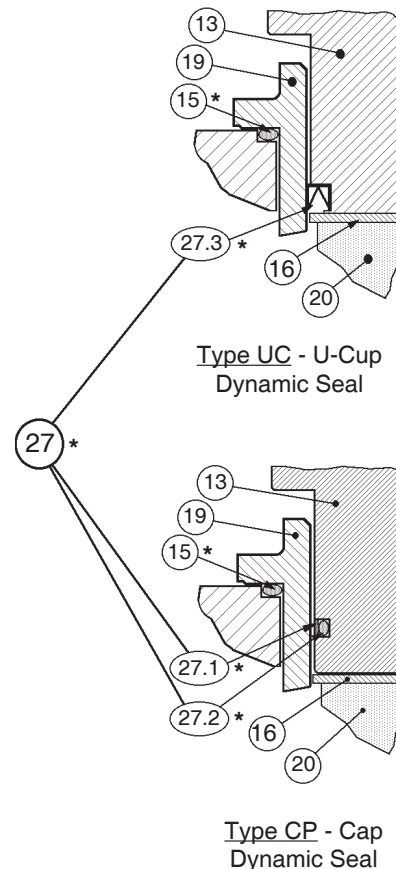
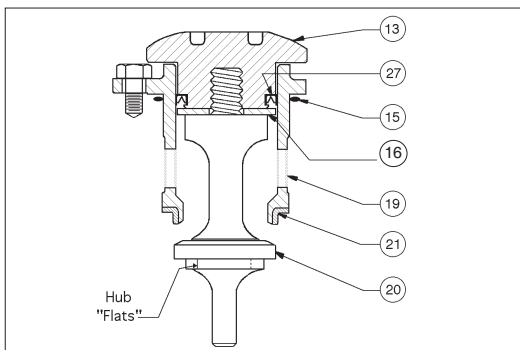

Figure 1: Dynamic Side Seals
Figure 2: Assembled ITA, with "UC" Dynamic Side Seal
6. A detailed view of the dynamic side seal parts is shown in Figure 1; an assembled ITA in Figure 2; and a cross-sectional drawing of the entire regulator is shown in Figure 3.
1. To Disassemble the ITA (See Figure 2):
- a. Hold the lower part of the valve plug (20) in a bench vise; grasp in "smooth jaws" directly under plug's (20) seating disc portion on hub "flats" provided. Do not hold on the machined surface in the plug's (20) spindle area.
1. Installation of dynamic side seal (27) (See Figure 1):
1. Position u-cup seal (27.3) over lower circumference of piston-guide bearing (13). Ensure the u-cup seal is oriented with the center-open-downwards as shown in Figure 1, as the u-cup seal depends upon the P1-Inlet pressure to activate proper sealing action.
2. Insert shim (16) into cage (19) and allow to rest inside the cage.
3. Position piston-guide bearing (13) over and into upper end of cage (19) until the cap seal (27.1) edge touches the upper lip of the cage. Gently apply downward force to press the piston-guide bearing (13) into the cage (19). **DONOT** use tools, lubricant, or heavy force to engage the u-cup seal (27.3) into the cage.
2. Place properly oriented seat ring (21) onto its shoulder at the lower end of cage (19).
- a. Insert valve plug (20) upwards through lower end of cage (19) and through the center hole of shim (16).
- b. Engage valve plug (20) with piston-guide bearing (13) threads and finger tighten.
- c. Place ITA into a vise with smooth jaws and grasp at hub “flats” location on the valve plug (20) that is not in the “spindle” zone. (See Figure 2.)
- d. Using a special double-posted spanner wrench fitting (to order see NOTE in Section IX, Parts Ordering Information), tighten the piston-guide bearing (13) to the valve plug (20) with the following torque values. Do NOT allow valve plug (20) to rotate against seat ring (21) during tightening.